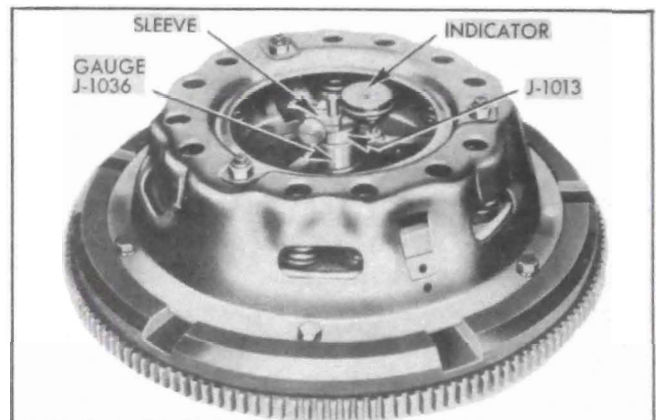

Figure 4-15—Release Lever Adjustment—Series 50-60
10. Carefully place support and indicator on machined hub of adjusting gauge so that indicator button is directly over inner end of one release lever. See figure 4-15. Adjust nut on release lever pivot screw as required to bring indicator to zero reading on the first revolution of indicator hand. Adjust the other release levers in same manner, using care to have all levers within .005" indicator reading of each other.